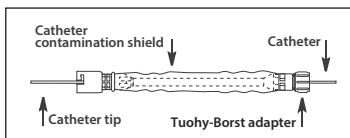

Figure 2
- a. If using a catheter contamination shield with Tuohy-Borst adapter (where provided), insert tip of desired catheter through Tuohy-Borst adapter end of catheter contamination shield. Advance catheter through tubing and hub at other end (refer to Figure 2).